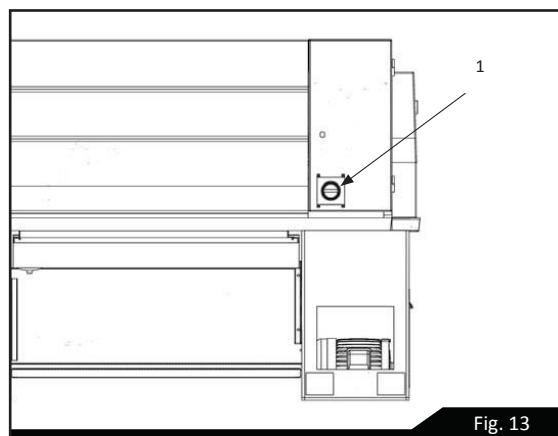

Fig. 13
- (1) POWER SWITCH: when the main power switch (1) on the electrical cover is turned on, the pilot lamp (2) glows and the electricity is on. (See Figure 13).
- (2) POWER INDICATOR LIGHT: When the power is on, the indicator light glows.
- (3) EMERGENCY STOP SWITCH: press the RED mushroom - head button to stop electric power, to stop the main motor and coolant pump.
- (4) JOG BUTTON: Press the GREEN button to move spindle slightly, it will make spindle speed selection very easy. (While the spindle rotation lever is set in the neutral position).
- (5) VARIABLE SPEED SELECTORS: adjusting spindle speed.
- (6) Spindle speed chart.
- (7) Coolant pump ON/OFF switch.
- (8) End cover switch: While operating open end cover door for adjustment or maintenance, it will stop automatically all rotation movements.